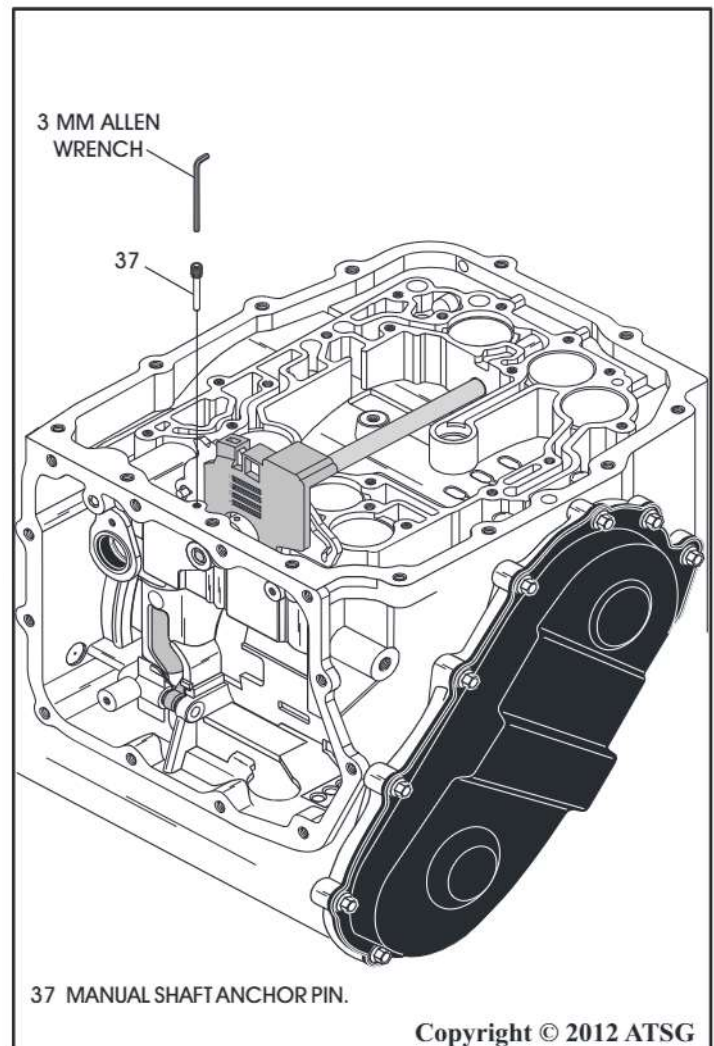

Figure 55
29. Remove manual shaft anchor pin from case, as shown in Figure 55, with a 3 mm allen wrench.